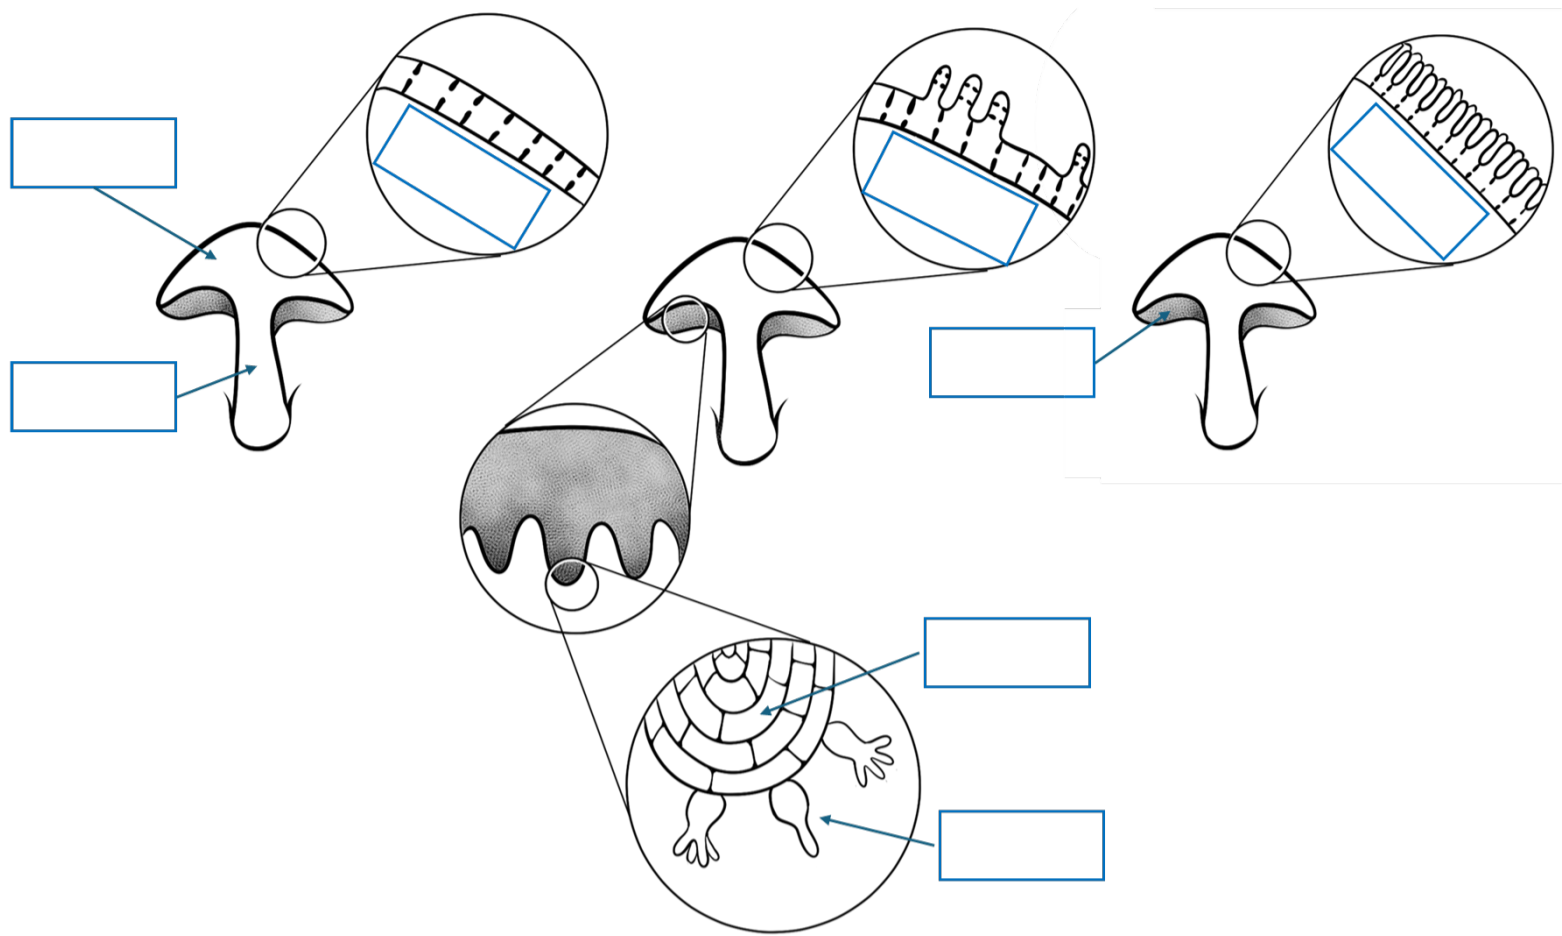

Figure 5.5 Image by Sara Ramos-Sepulveda Modified by Author
2. Identify the following structures (bullet points) in Figure 5.5: